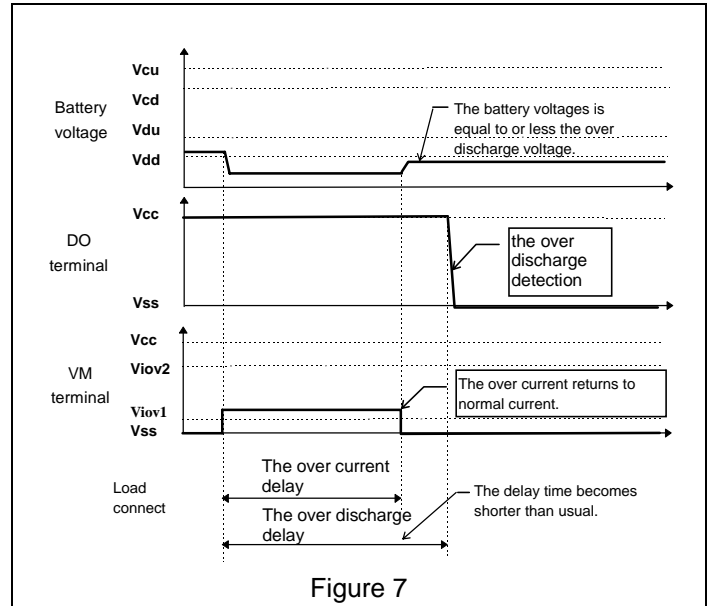

Figure 7
(1) After the over current detection delay, if the battery voltages is equals the over discharge detection voltage(VDD1,2) or lower, the over discharge detection delay time becomes shorter than 10mS(min.). It occurs because capacitor C3 sets all of delay times. (Refer fig.7)